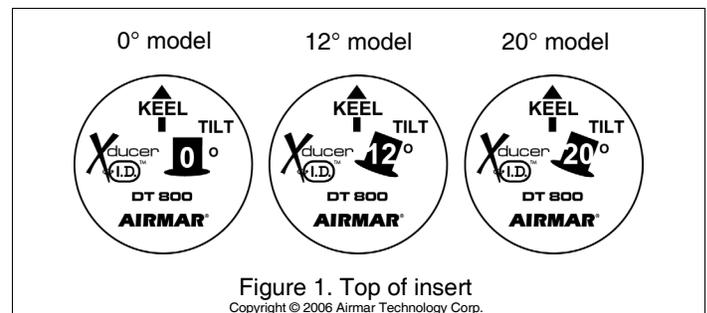
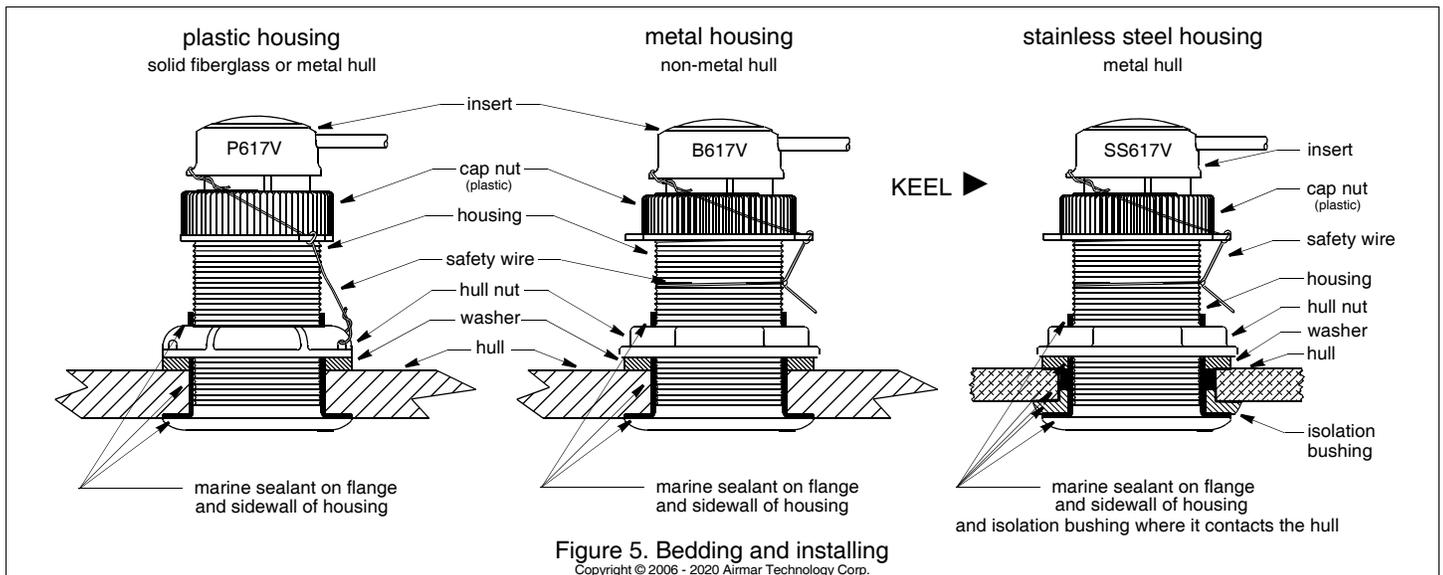

Figure 1. Top of insert
Figure 5. Bedding and installing
Be sure your transducer model matches the deadrise angle of your hull at the mounting location. See the top of the transducer insert for the tilt angle (Figure 1). Measure the deadrise angle of your hull at the selected mounting location (Figure 2).
Apply a 2mm (1/16") thick layer of marine sealant around the flange of the housing that will contact the hull and up the sidewall of the housing (Figure 5). *The sealant must extend 6mm (1/4") higher than the combined thickness of the hull, the washer, and the hull nut.* This will ensure there is sealant in the threads to seal the hull and to hold the hull nut securely in place.
1. From outside the hull, push the housing into the mounting hole using a twisting motion to squeeze out excess sealant (Figure 5).
6. The insert must be fully inserted into the housing and the cap nut screwed on completely to make a watertight seal (Figure 5). **Slide the insert into the housing with the arrow on the top pointing toward the KEEL/centerline of the boat** (Figure 1).
7. Screw the cap nut several turns until the threads are engaged (Figure 5). Being sure the arrow on the top of the insert and the cable exit are pointing toward the keel/centerline, continue to tighten the cap nut completely. Be careful not to rotate the housing and disturb the sealant. **Hand tighten** only. Do not over tighten.
2. Remove the insert from the housing by removing the safety wire and unscrewing the cap nut (Figure 5). This will raise the insert. Remove the insert with a slow pulling motion. Replace it by sliding the blanking plug into the housing.